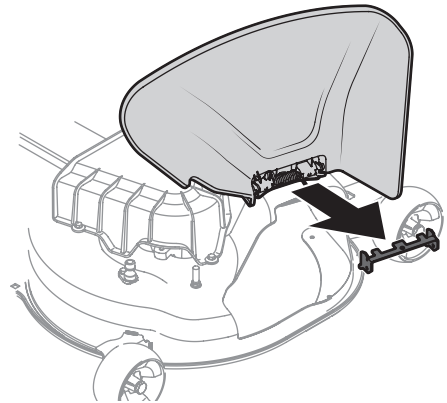

Figure 11
2. Holding the chute deflector fully upward, remove the stop bracket. Lower the chute deflector and discard the stop bracket. See Figure 11.